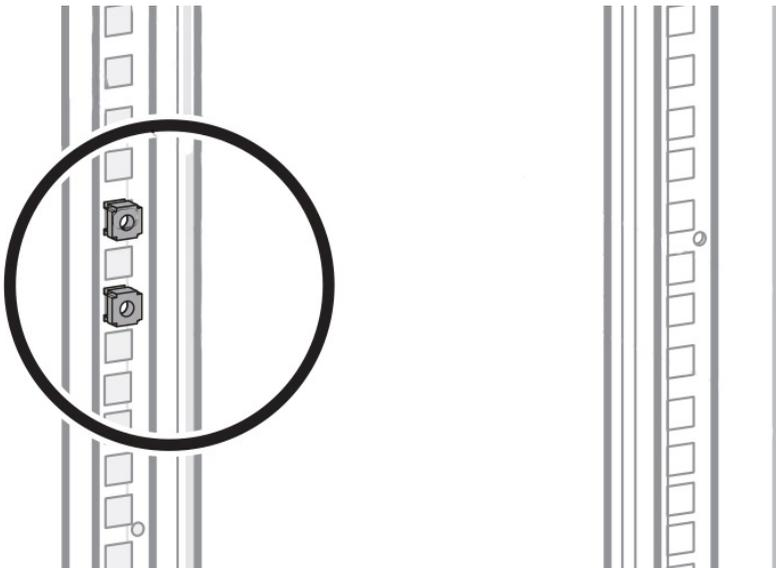

Fig.1. Installation of mounting cage nuts on rack
1. Install the cage (mounting) nuts as shown in the Fig. 1.